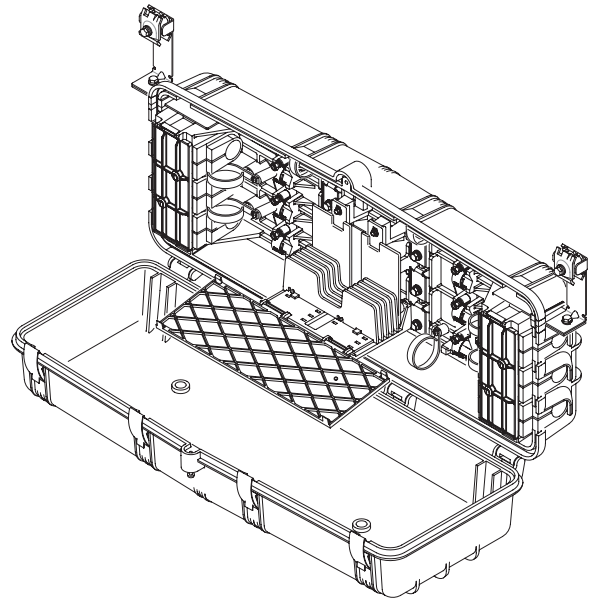

FIGURE 18—Completed LG-600 Closure Assembly.
- 10.02** The joining of the Frame and Cover Assemblies should resemble that depicted in Figure 18.